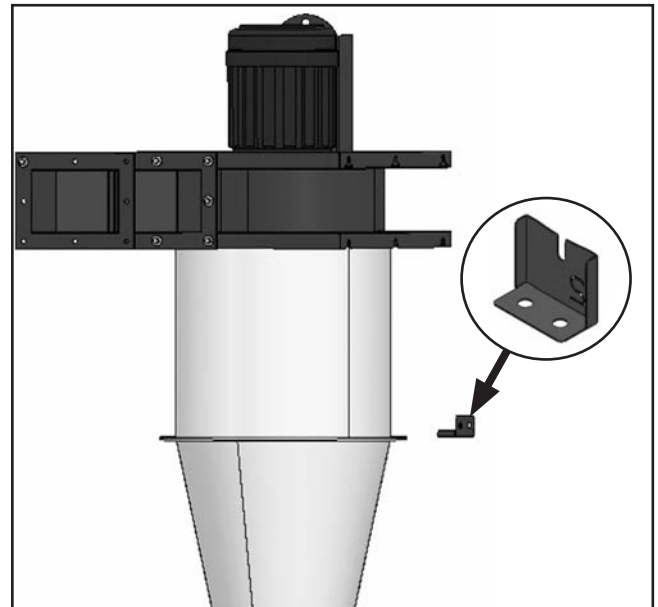

Figure 21. Extended brace included with T27326 wall-mount kit.
1. Follow **Steps 1–5** in **Assembly** section, beginning on **Page 19** of Owner's Manual. In **Step 5**, replace original intake barrel brace with the extended brace provided with T27326 Wall-Mount Adapter Kit for HEPA Upgrade (see **Figure 21**).